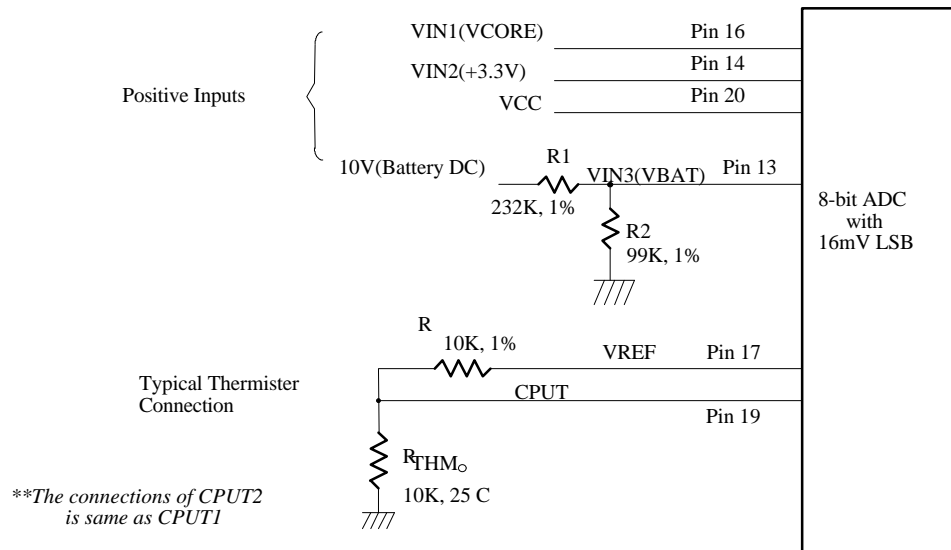

Figure. 10.
The maximum input voltage of the analog pin is 4.096V because the 8-bit ADC has a 16mV LSB. Really, the application of the PC monitoring would most often be connected to power suppliers. The CPU V-core voltage and +3.3V voltage can directly connected to these analog inputs. The 5VSB and battery inputs should be reduced a factor with external resistors so as to obtain the input range. As Figure 10 shows.
The W83L784R can connect three thermistors to measure three different environment temperature. The specification of thermistor should be considered to (1)  $\beta$  value is 3435K, (2) resistor value is 10K ohms at 25°C. In the Figure 10, the thermistor is connected by a serial resistor with 10K Ohms, then connect to VREF (pin 17).